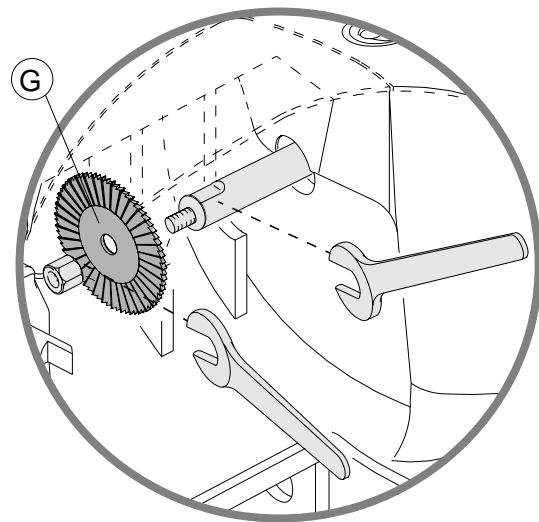

Fig. 17
- 1) place the spanner provided in position on the motor shaft (fig.17);